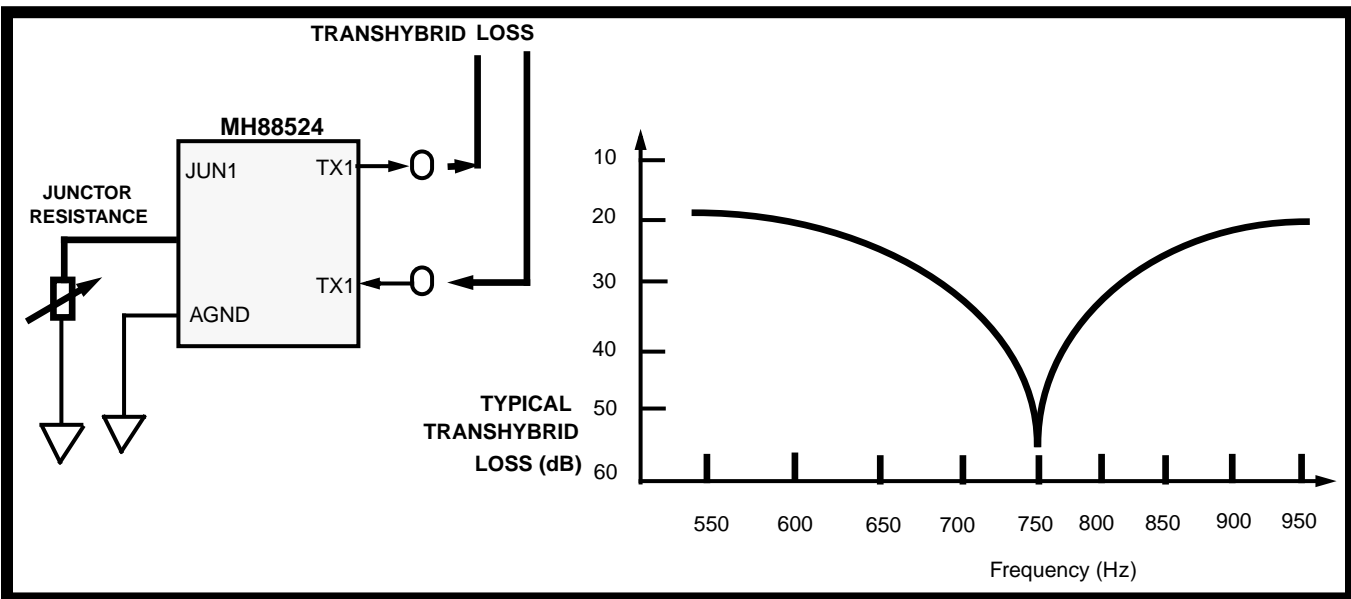

Figure 4 - Transhybrid Loss vs Junctor Resistance with MH88524
③ See Figure 4.
Transhybrid loss is maximised when the JUNi termination impedance is $754W$. In addition, good transhybrid loss is indicated in Figure 4 and AC Electrical Characteristics.